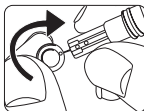

Figure 24
STEP 3: Remove the protective cap from the lancet by twisting it and then save it for later use. See Figure 24.